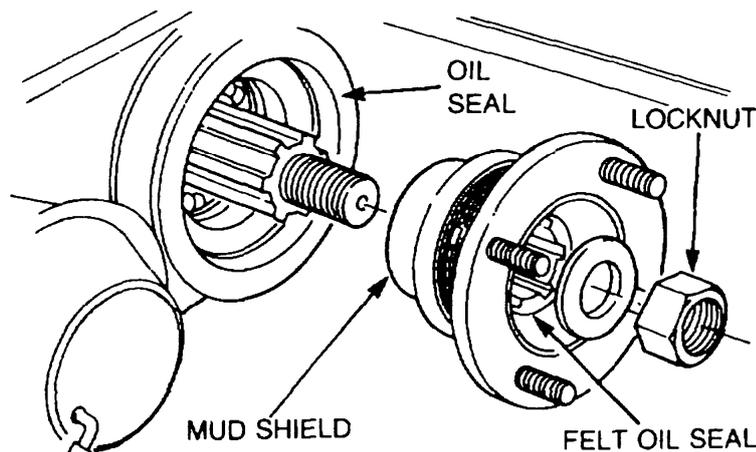

Figure 65 Output Shaft Cover Oil Seal Removal (Rear Axle)
- Using adjustable wrench (Table 3, Serial 4) to prevent the coupling flange rotating remove the locknut, flat washer and felt oil seal (Figure 65). Discard the locknut and felt oil seal.
- f. Apply Loctite 242 to the shaft thread and install the flat washer and new locknut (Figure 65).